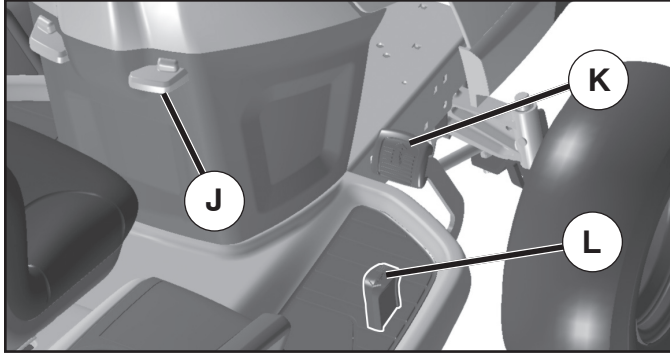

Fig. 18
TO MOVE FORWARD AND BACKWARD (See Fig. 18)
- Slowly depress forward (K) or reverse (L) drive pedal to begin movement. Ground speed increases the further down the pedal is depressed.
TO USE CRUISE CONTROL (J) (See Fig. 18)